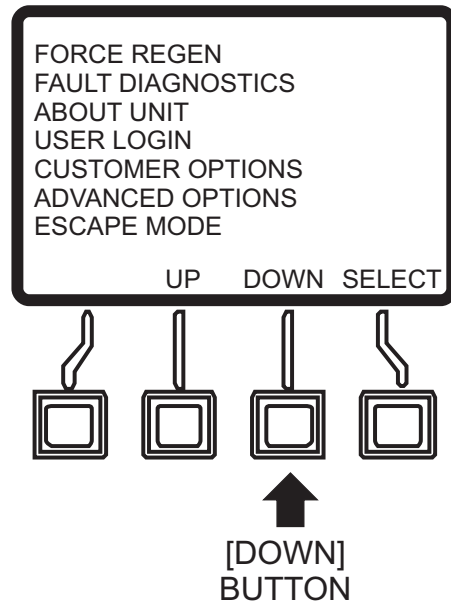

Figure 95. Main Menu (Down Button)
4. Press the [DOWN] button (Figure 95) to scroll to the Escape Mode item.